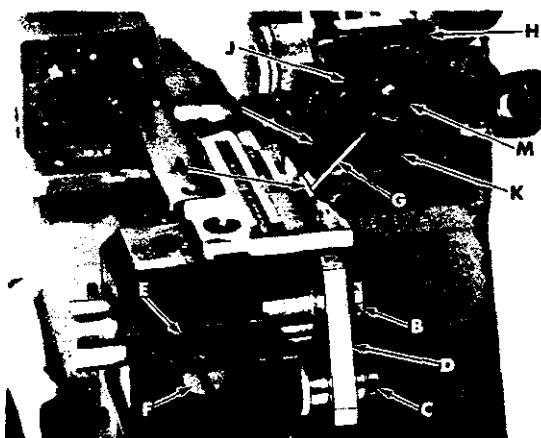

Fig. 16
At lowest position the front tip of upper knife cutting edge must extend 1/64 - 1/32 inch (.4 - .8mm) below cutting edge of lower knife. If adjustment is required, rotate handwheel to position upper knife driving arm at lowest position; with upper knife (G, Fig. 16) at lowest position of travel and while holding upper knife firmly against lower knife, adjust knife holder (H) left to right, to position front tip of upper knife cutting edge 1/64 - 1/32 inch (.4 - .8mm) below cutting edge of lower knife, then tighten screw (J).